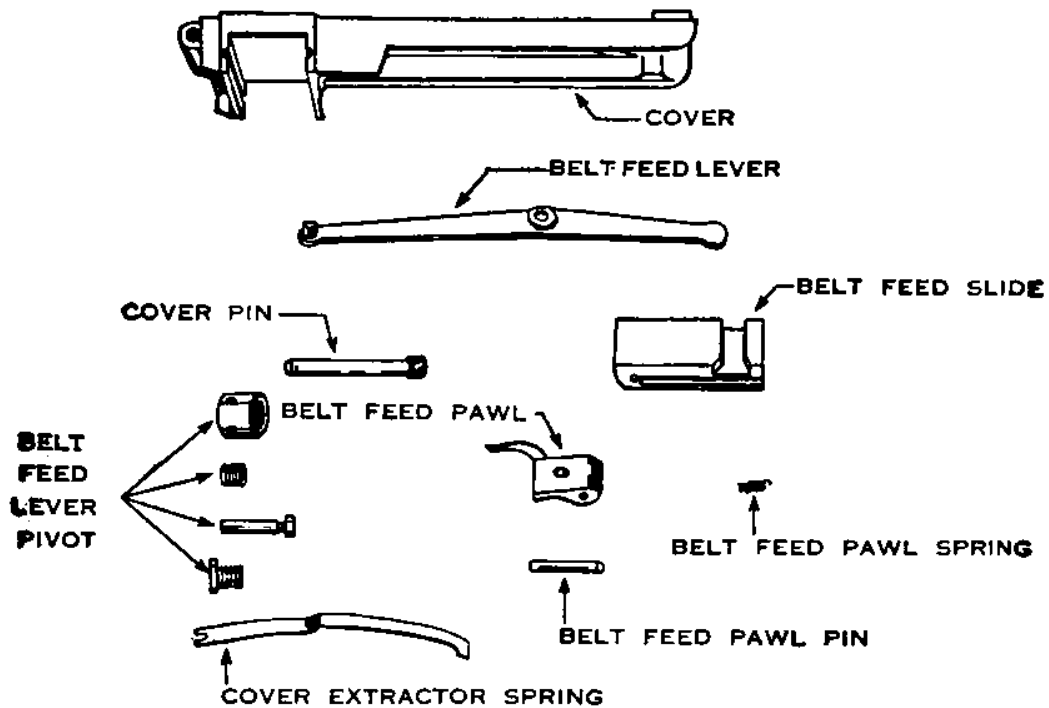

FIGURE 8.—Feed group.
■ 18. DETAILED DISASSEMBLING OF COVER (fig. 8).—a. Remove cap or plug from belt feed lever pivot bushing nut. Remove belt feed lever pivot.